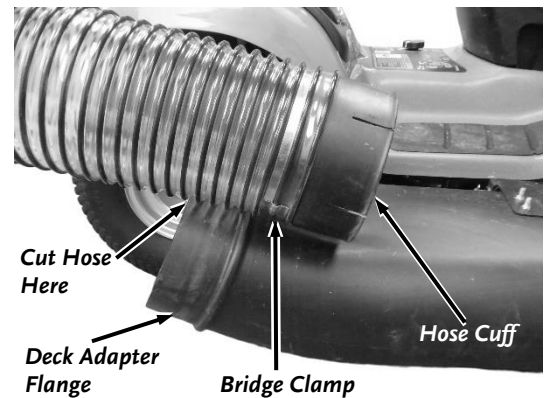

Figure 60
- Remove the Hose Cuff from the Deck Adapter, position it next to the Deck Adapter flange and pull carefully until the Hose is no longer touching the ground (**Figure 60**).